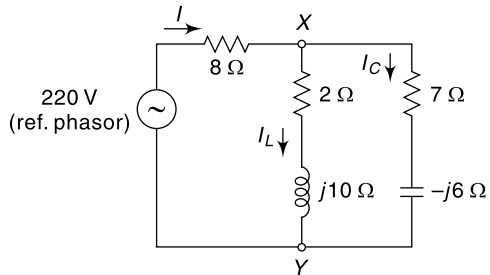

Fig. 5.81 Circuit diagram for Ex. 5.136
5.136 Obtain the values of I_1 , I_2 and I for the circuit shown in Fig. 5.81.